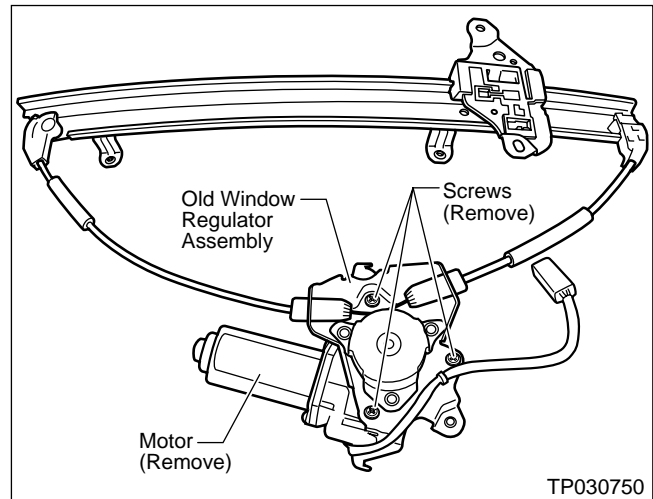

Figure 12
15. Take out three screws and remove the Motor from the Window Regulator Assembly (see Figure 12).